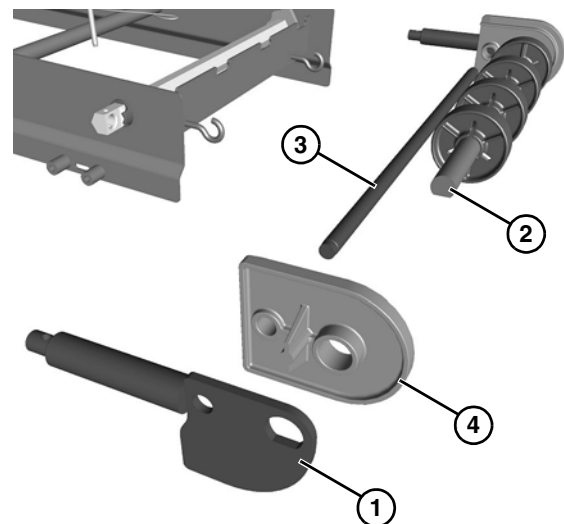

Figure 63
3. Remove the shaft assembly (Figure 63, item 1) from idler shaft (Figure 63, item 2) and pinch guard shaft (Figure 63, item 3).
4. Remove tracking plate (Figure 63, item 4) from idler shaft and pinch guard shaft.
5. Remove pinch guard shaft (Figure 63, item 2).